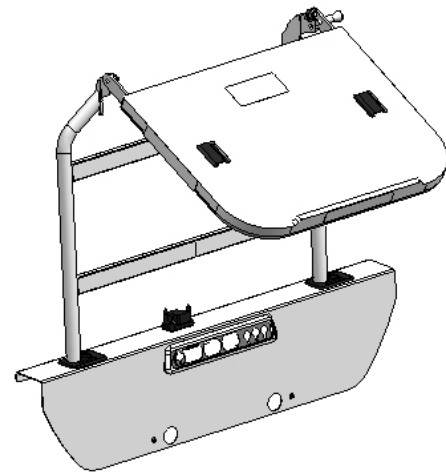

Figure 2
- To the left of the head or foot casing. (See Figure 2)
2. For the writing support position (Figure 2), lift the tray approximately 30° and release the lock pin.